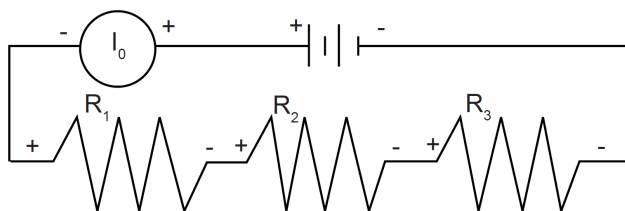

Figure 6.2
2. Now change the leads in your multimeter so that they can be used to measure current, with the red lead plugged into the $\mu A/mA$ port. You should be using the scale which goes to a maximum of 200 mA. Be careful to observe the polarity of the leads (red is +, black is -). In order to measure current, the circuit must be interrupted and the current allowed to flow through the meter. Disconnect the lead wire from the positive terminal of the battery and connect it to the red (+) lead of the meter. Connect the black (-) lead to R_1 , where the wire originally was connected. Record your reading in Table 6.1 as I_0 . See Figure 6.2 for a guide.